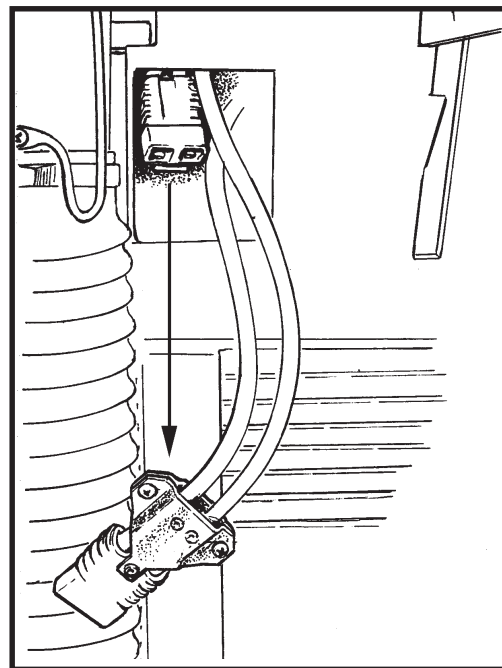

Figure 13
3. Disconnect the battery pack connector from the control housing connector. See figure 13.